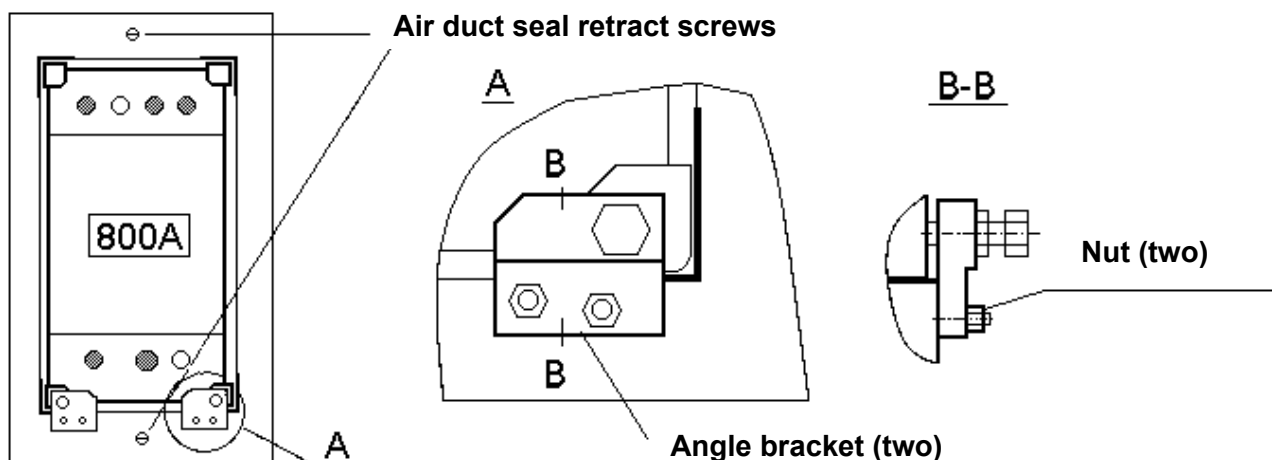

Figure 2.4.-1. Storage Battery 800A Installation and Fastening
Fastening: Two angle brackets having two custom bolts on each (see Figure 2.4.-1.)
3. Completely loosen air duct seal retract screws (two) on frame (see Figure 2.4.-1.)
10. Completely tighten air duct seal retract screws (two) located on the frame (see Figure 2.4.-1.)